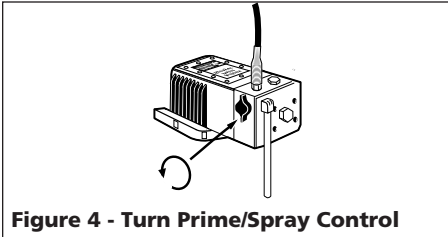

**Figure 3 - Power Switch Location**
2. Turn Power Switch to the ON position (See Figure 3).